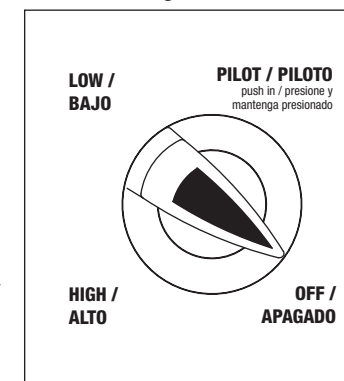

Figure 4
4. Push control knob in and rotate to "PILOT" position. (Figure 4)